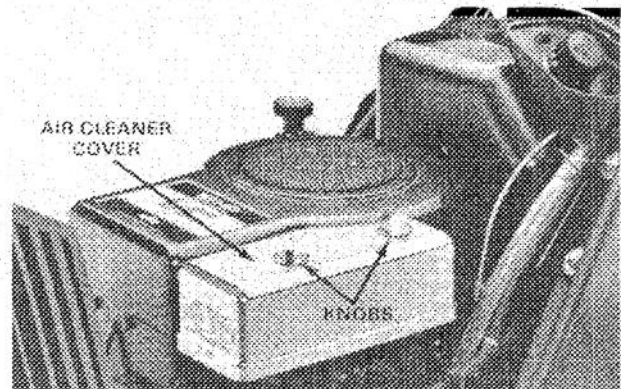

Figure 16
2. Remove air cleaner knobs and cover (Fig. 16).